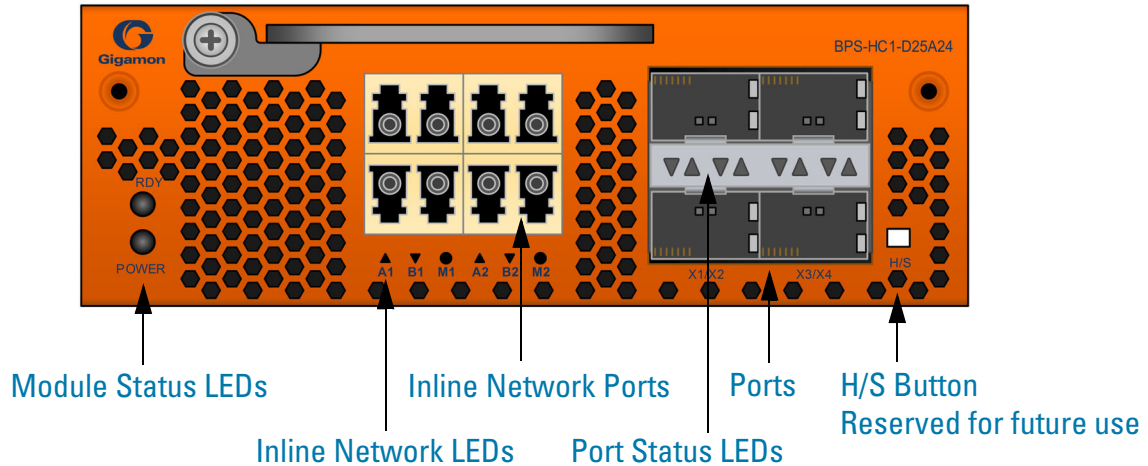

Figure 1-5: Bypass Combo Module BPS-HC1-D25A24
- Bypass Combo Module with two SX/SR (50/125µm multimode) inline network port pairs and four regular SFP+ and SFP+ copper port cages (BPS-HC1-D25A24) (Figure 1-5 on page 18)